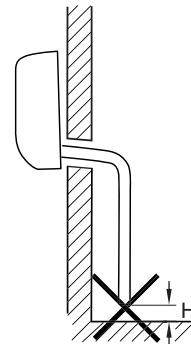

Fig. 9.4 Minimum distance from the floor.
- For drain pipes run to ground level outside, install the condensed water pipe in such a way that the distance of its free end from the floor is at least 5 cm (see Figure 9.4).